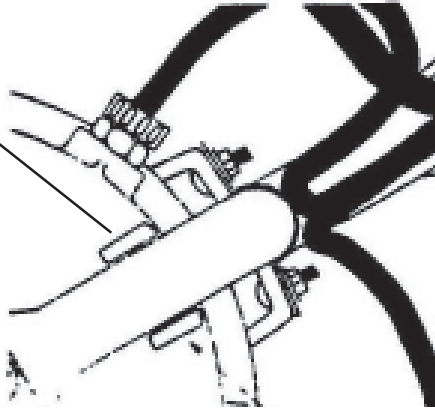

Figure 24
- C. Place one of the Support Arms in the center of the anti-rotational point on the Transformer Enclosure --see Figure 24. Figure 24 is located on page 20.**
- E. Replace the Support Arm back to its original position by refastening the (2) 1/4" nuts to the Brass Mounting Ring and the (1) 5/16" bolt and nut to the Support Arm Brace.**
(2) Support Arm Brace - Remove one of the 5/16" bolts that mounts one of the Support Arms to the Support Arm Brace.